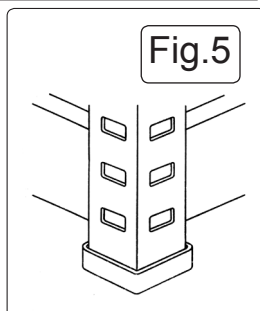

Fig.5
- 4.6 See Fig.5. When the frame is complete attach the plastic floor protectors to the bottoms of the angle sections. Get a second person to steady the frame while this is done.